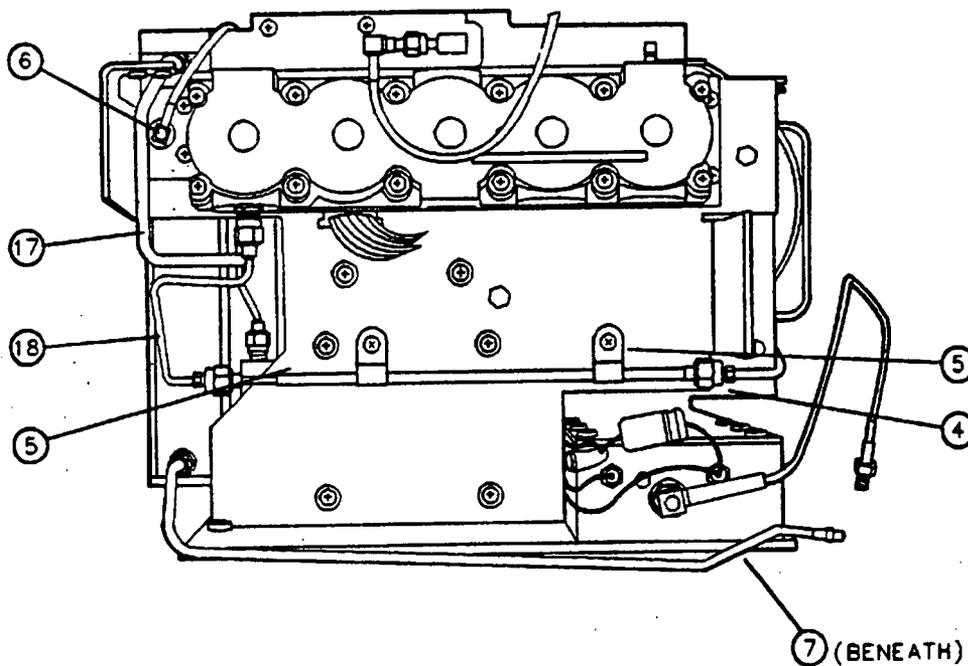
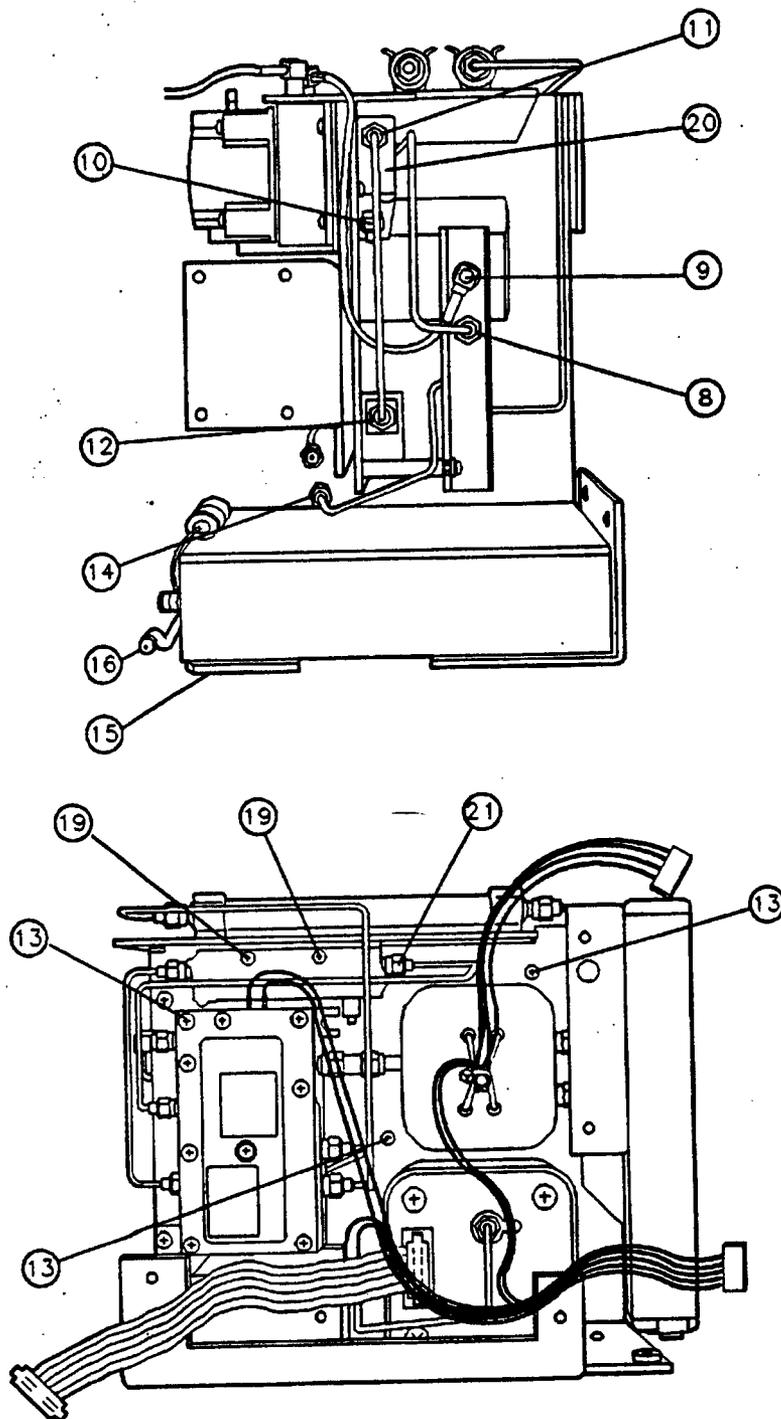

Figure 3-24. A3A10 Directional Coupler Replacement, Left-Side View
Figure 3-25. A3A10 Directional Coupler Replacement, Front and Right-Side Views
8. If there is not enough clearance for the use of wrenches at the W29 connector (4), remove the two screws and flat washers (5) on the cable clamps that hold the filter in place. See Figure 3-24.
13. Disconnect the W33 semirigid cable (8) from A3A6J4 on the dual mixer. See Figure 3-25.
14. Disconnect the W22 coaxial cable (9) from A3A6J5 on the dual mixer.
15. Loosen the W20 coaxial cable (10) from the directional coupler. Note how W20 is routed through the front-end assembly.
16. Loosen the W32 semirigid cable (11) at the directional coupler.
17. Disconnect the W32 semirigid cable (12) from the A3A13 Isolator.
18. Remove the three screws (13) that secure the "B" bracket to the "A" bracket.
- Position the W29 semirigid cable (14) so that it does not interfere with the separation of the two brackets.
- Slide the "B" bracket (15) out from under the A3A1 Comb Generator and over the W10 semirigid cable (16).
- Pivot the "B" bracket around the W10 semirigid cable (17). See Figure 3-24. The "B" bracket remains trapped by W10 and does not have to be removed from around the cable for this procedure.
- Make sure that W10 does not interfere with W30 (18) while moving the "B" bracket.
20. Remove the two screws, lock-washers, and nuts (19) that secure the A3A10 Directional Coupler to the "A" bracket, using a small Pozidrive screwdriver and needle-nose pliers. See Figure 3-25.
21. Pull the directional coupler (20) out from behind the A3A6 Dual Mixer and disconnect the W20 coaxial cable (10). Leave W20 in the front-end assembly.
22. After removing the directional coupler, disconnect the W32 (11) and W33 (21) semirigid cables.
1. Connect the W32 semirigid cable to the A3A10 Directional Coupler without tightening. See Figure 3-25.
5. Position the directional coupler (20) in the front-end assembly. Make sure that W20 is correctly routed through the front-end assembly, as noted in the directional-coupler removal procedure.
6. Replace the two screws, lock-washers, and nuts (19) that secure the directional coupler to the "A" bracket, using a small Pozidrive screwdriver and needle-nose pliers. The lock-washers and nuts should be against the "B" bracket.
- Make sure that W10 does not interfere with W30 (18) while moving the "B" bracket. See Figure 3-24.
- Pivot the "B" bracket around the W10 semirigid cable (17).
- Slide the "B" bracket over the W10 semirigid cable (16) and under the A3A1 Comb Generator (15). See Figure 3-25.
- Position the W29 semirigid cable (14) so that it does not interfere with the alignment of the two brackets.
8. Replace the three screws (13) that secure the "B" bracket to the "A" bracket.
9. Connect the W32 semirigid cable (12) to the A3A13 Isolator and tighten to 10 inch-pounds, using a 5/16 inch torque wrench.
10. Tighten the W32 semirigid cable (11) at the directional coupler to 10 inch-pounds.
11. Tighten the W33 semirigid cable (21) at the directional coupler to 10 inch-pounds.
12. Connect the W22 coaxial cable (9) to A3A6J5 on the dual mixer and tighten to 10 inch-pounds.
13. Connect the W33 semirigid cable (8) to A3A6J4 on the dual mixer and tighten to 10 inch-pounds.
14. Replace the screw (7) that secures the comb generator the "B" bracket. See Figure 3-24.
16. Connect the W23 coaxial cable (6) to the A3A4 Second Converter.